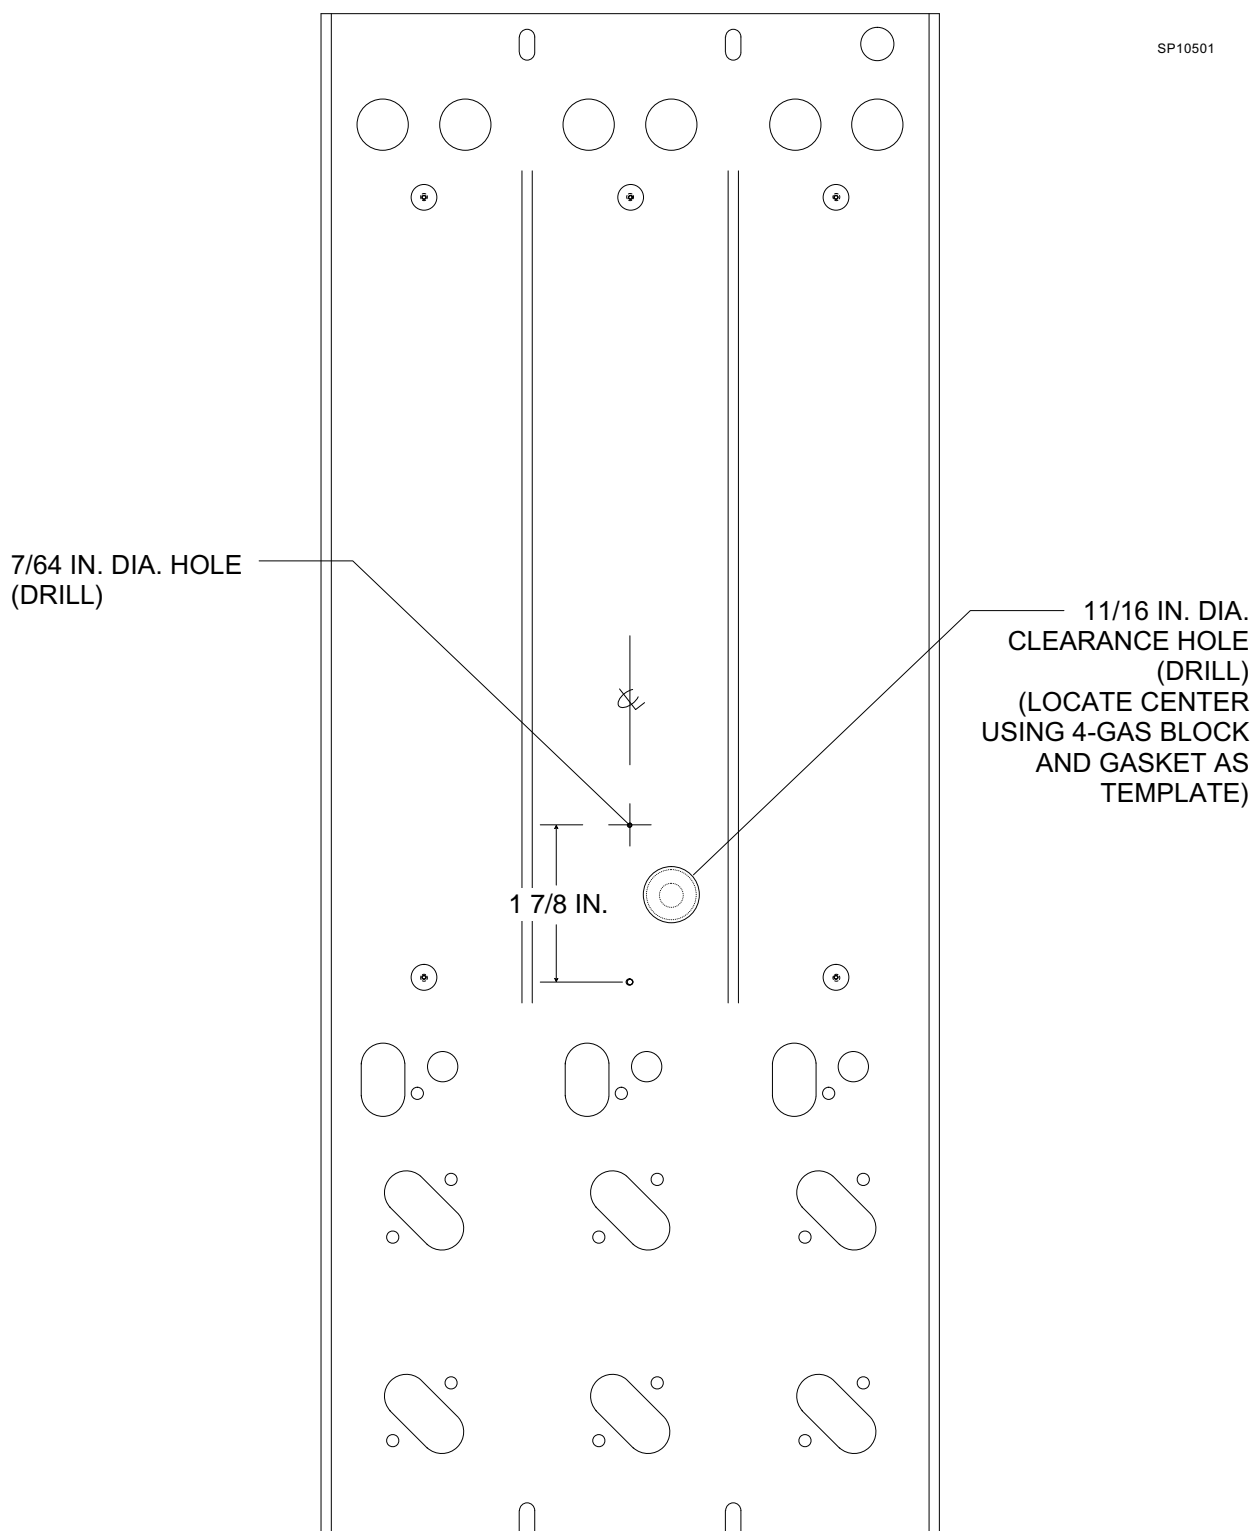

Figure 1: DRILLING LOCATIONS: 4-GAS CONVERSION
32. Using the bottom block as a template, mark the circumference of the 4th gas flow control housing onto the channel: (Insert a flowmeter gasket (P/N 4102725) into the housing. This will provide a smaller diameter hole to aid in locating the center point.) The hole location is shown in Figure 1.
35. Measure and mark a location 1 7/8 in. up from the lower center spacer hole, and centered in the channel as shown in Figure 1.